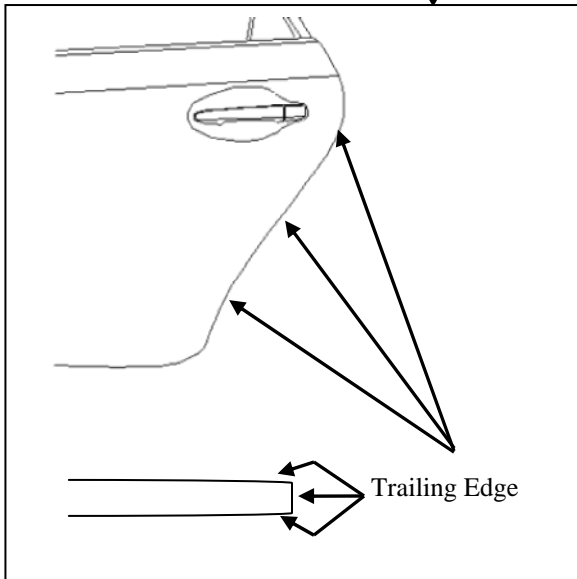

Fig. 1-1
- (1) Spray 3~4 pumps of Simple Green (or VDC approved cleaner) onto lint free towel and pinch the wet towel between your thumb and forefinger while running along the length of the door edge to clean the inside and outside of the trailing edge of door. Make several passes to ensure the wax and oil has been removed. (Fig. 1-1)